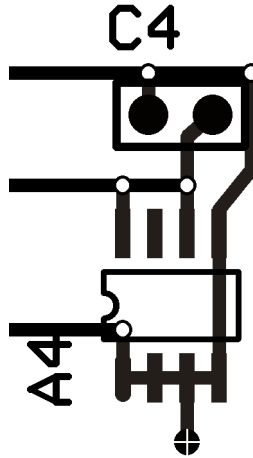

Figure 7.4. One of the pads on SMD component A4 is connected to a separate through-hole thermal relief pad by way of a stringer.
- 6 Proceed with routing as usual. Note that short stringer tracks (a short track and a 40 mil pad) will be autorouted to the SMD power and/or ground pads and connected to the appropriate plane using a thermal relief as in Figure 7.4.